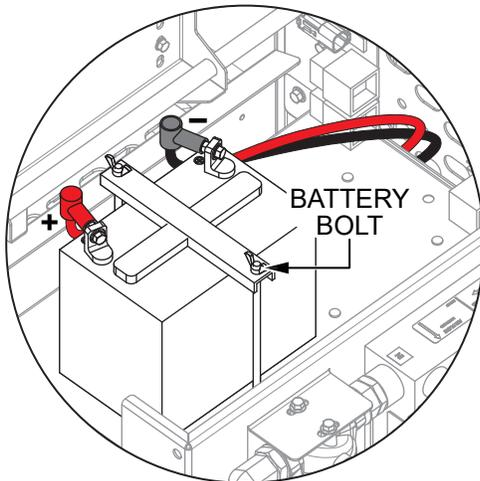

Figure 13. Battery Connection
2. Make sure the battery is well secured in the battery tray with the two battery bolts (Figure 13).
3. Connect the positive (**RED**) battery cable to the positive (+) terminal on the battery, then connect the negative (**BLACK**) battery cable to the negative (-) terminal. See Figure 13.